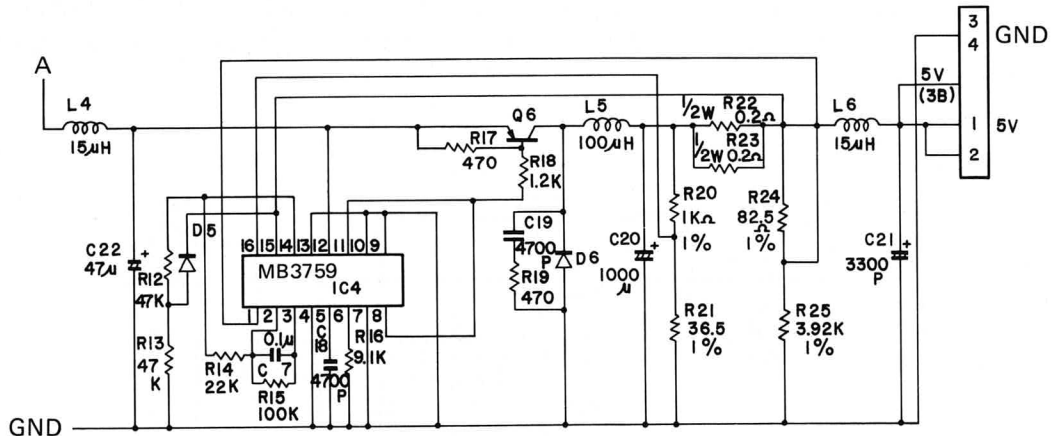
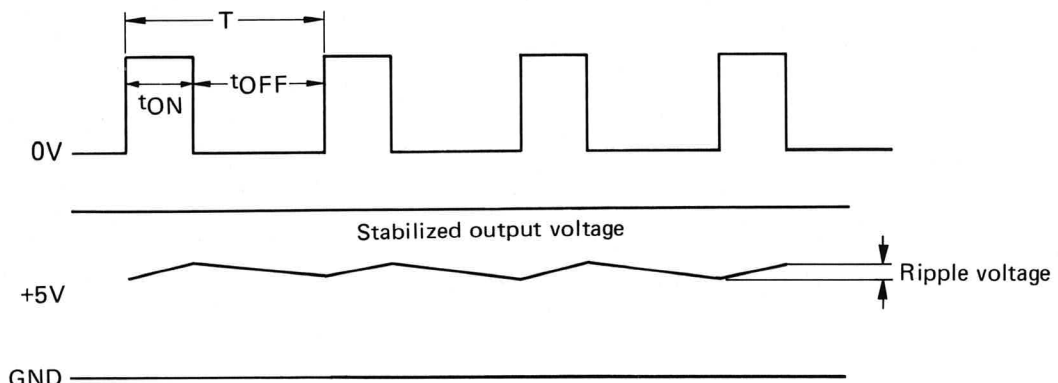

Fig. 7.9 +5V power circuit
Fig. 7.10 Q6 control voltage
Fig. 7.9 is the schematic diagram of the +5 VDC regulation circuitry. Unlike the regulators for the other voltages in the 6100, the +5 volt circuit utilizes a high frequency switching type regulator. A complete description of the operation of this regulator would be very difficult because of its complexity, however, a few general points will be discussed. The voltage applied to point (A) of the circuit is a full wave rectified signal of approximately 30 volts. Transistor Q6 acts as a switch to periodically apply the voltage to the filtering circuit and feed-back networks. The amount of time during which Q6 is turned on determines the output voltage. Fig. 7.10 illustrates the relationship between the on and off times of the signal which controls Q6. The output voltage can be determined by the following formula:
When Q6 is conducting, Coil L5 and Capacitor C20 tend to smooth the controlled pulse voltage to a DC waveform. When Q6 turns off, Coil L5 releases its electromagnetic energy through commutating diode D6. Fluctuations in the input voltage or the resulting output voltage are detected by R24 and R25. A feedback signal which is supplied at the center of these two resistors is applied to the IC at pin 1 and the t_{ON} time is varied to maintain a constant output voltage. Over-current protection is achieved by monitoring the voltage between R20 and R21 and comparing it with the voltage between R24 and L6. If the resultant voltage exceeds a certain preset value, the t_{ON} time is again changed to reduce the output voltage. Fig. 7.10 also shows a representation of the output voltage, the amount of ripple on the +5 volts would be only a few millivolts.